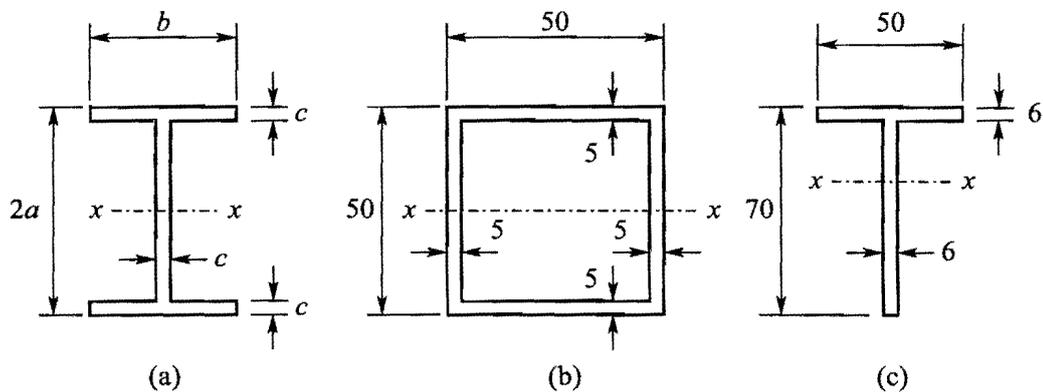

Figure 4
- † 4. Find the value of the plastic section modulus, Z_p , for bending about the axis, $x-x$, for each of the three sections shown in Figure 4. For section (b), compare your value with the corresponding section in the Structures Data book, p.18; why is there a difference? For section (c), evaluate the fully plastic moment, M_p , given that the material yield stress is 355 N/mm^2 .